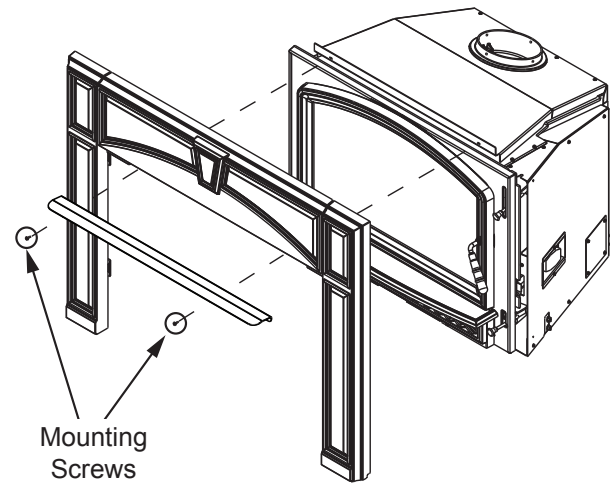

Figure 22.3
6. Using a Phillips screwdriver and two screws attach mantle deflector cast surround trim assembly to appliance as shown as in **Figure 22.3**.